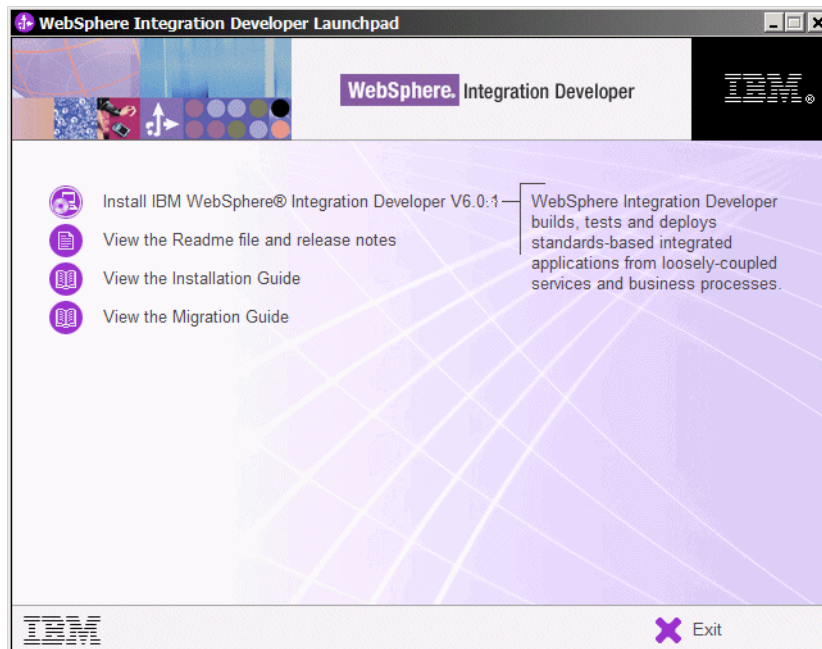

Figure A-2 WebSphere Integration Developer Launchpad
- ▶ In the Launchpad select *Install IBM WebSphere Integration Developer V6.0.1* (Figure A-2).